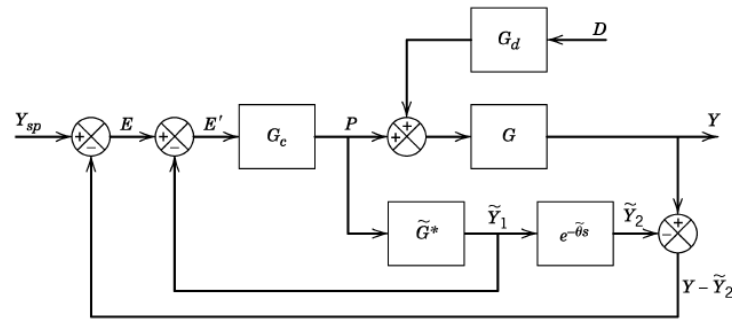

Figure E11.9
11.9 The block diagram of a special feedback control system is shown in Fig. E11.9. Derive an expression for the closed-loop transfer function, $Y(s)/D(s)$.